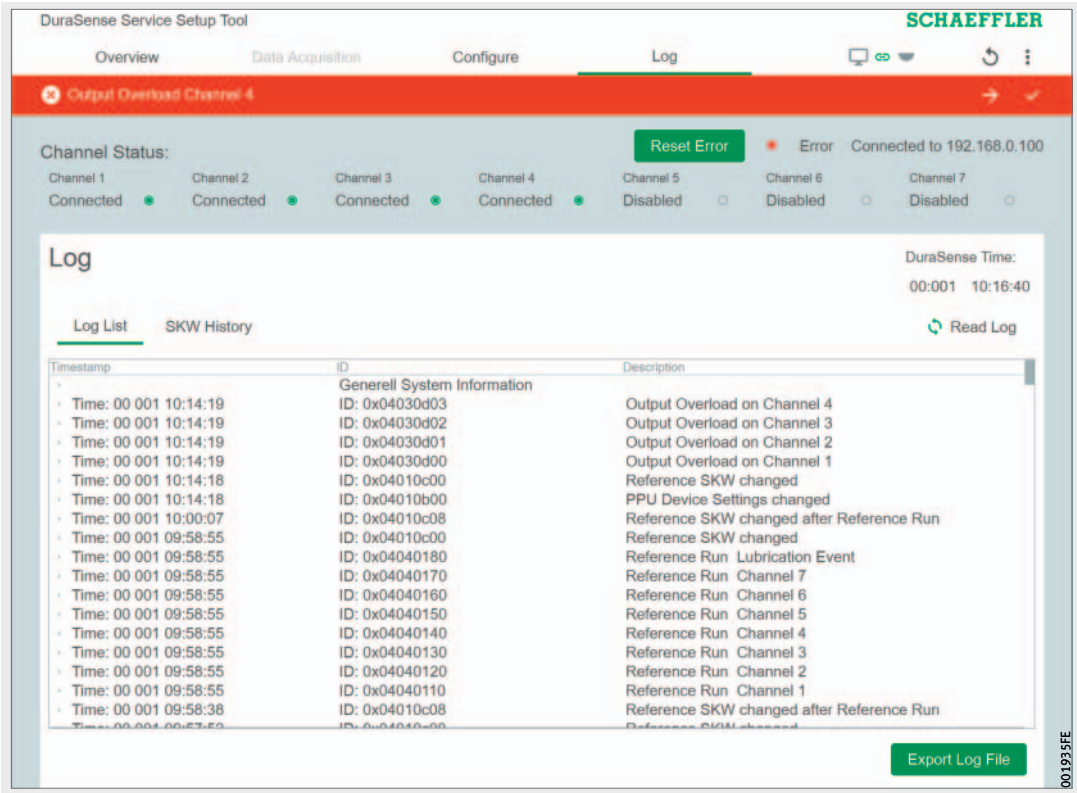

Figure 22
- ▶ Select the [Log] tab, *Figure 22*.